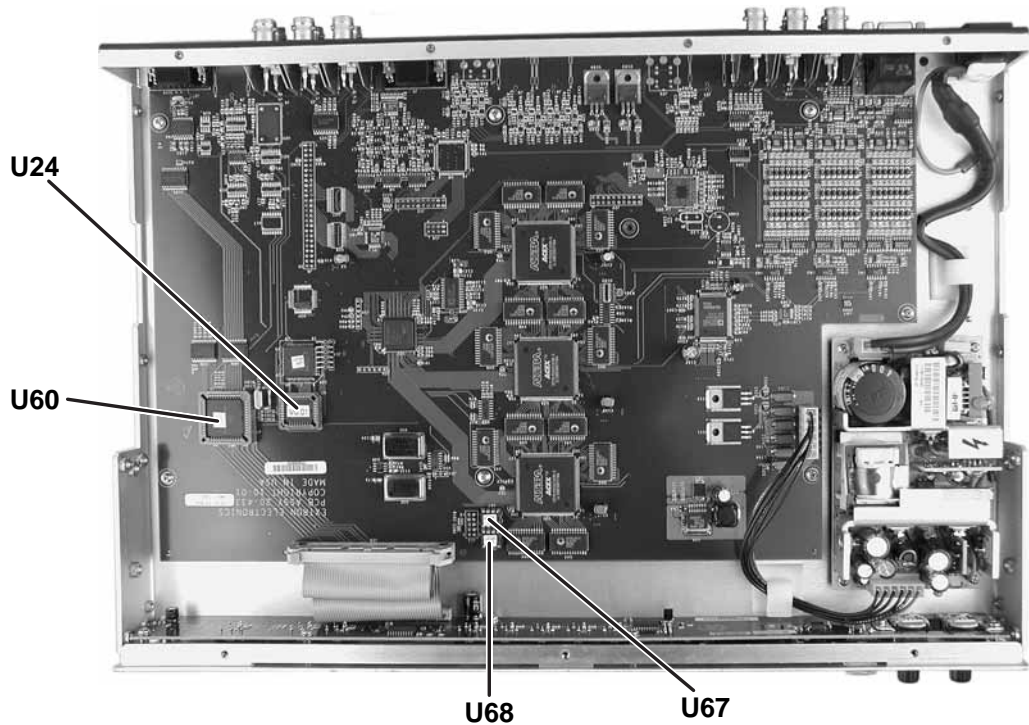

Figure A-2 — Locating the four firmware IC chips
4. Locate the firmware chip(s) to be replaced on the circuit board (figure A-2).